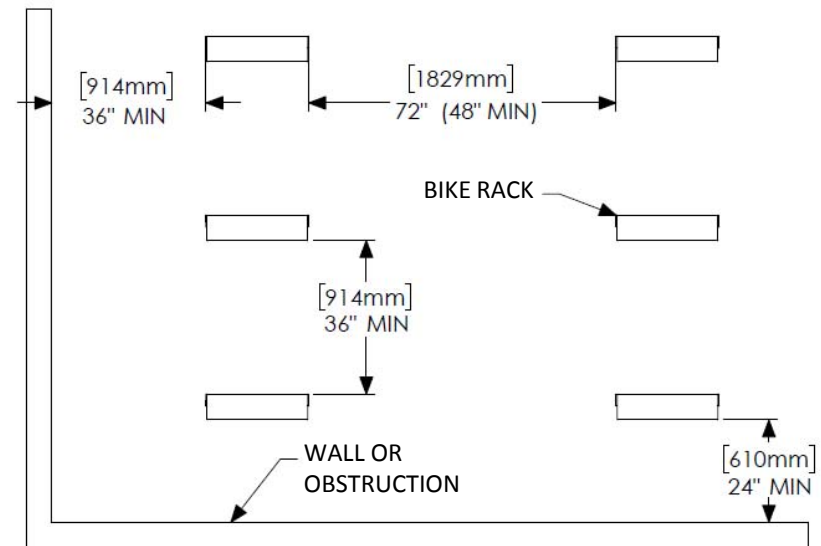

Fig. 4 – Recommended spacing, according to Association of Pedestrian and Bicycle Professionals (APBP)
3. Mark hole locations. See Fig. 4 for spacing recommendations.